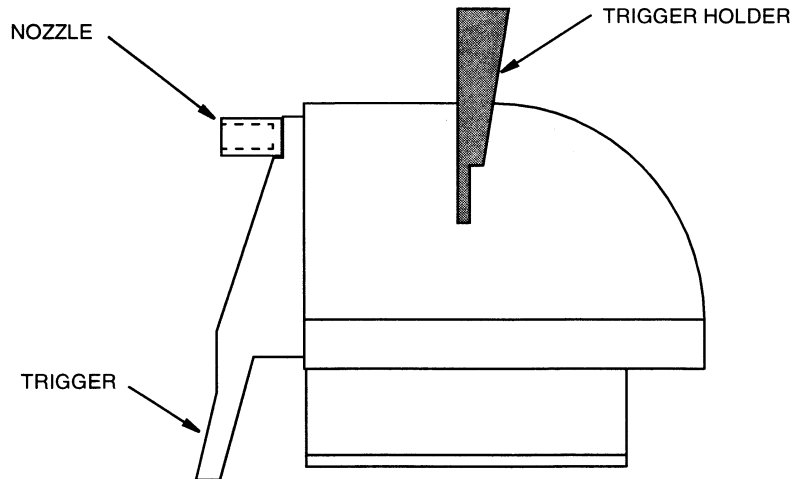

Figure E-3. Inserting the Trigger Holder
3. Slowly squeeze the trigger. When the trigger is fully depressed, insert the trigger holder as shown in Figure E-3. This holder keeps the gas tank valve open while the test proceeds. Once the gas sampling accessory is installed, lay the complete assembly down with no further intervention. Watch the gas readings climb.